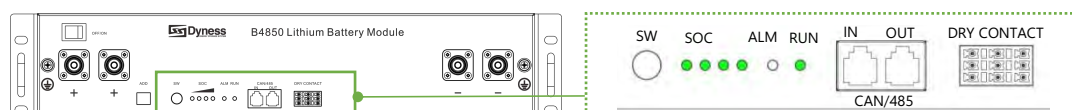

Figure 4-1
2. After the indicator self-test, the RUN indicator will light and the SOC indicator will be on (100% SOC status in the Figure 4-1).